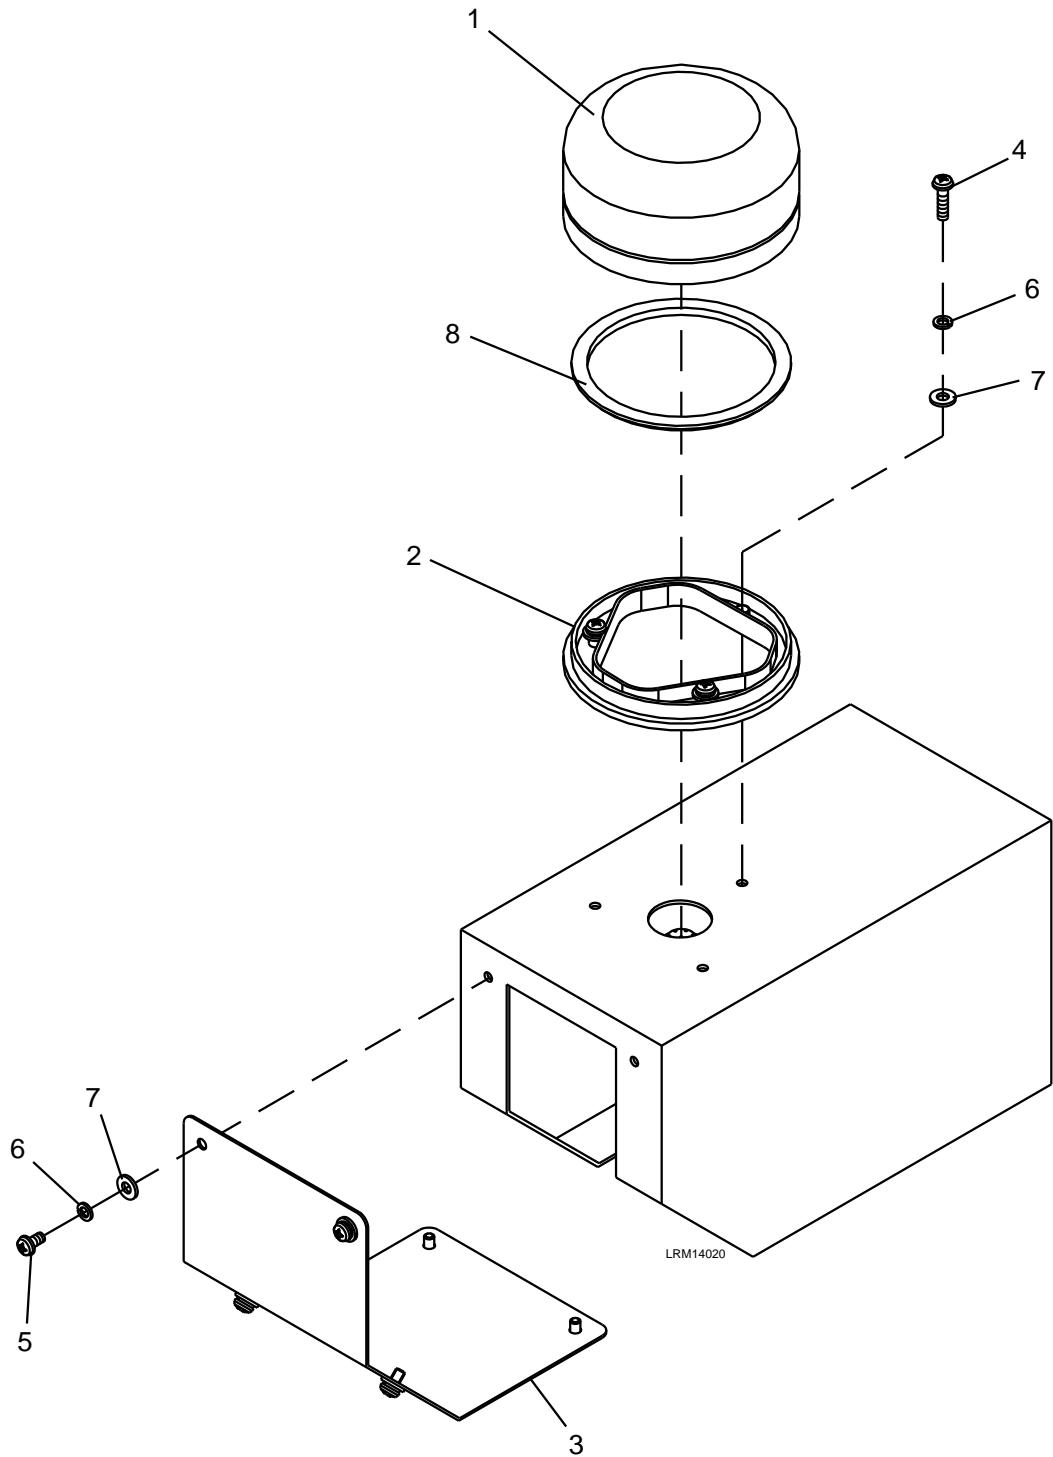

Figure 7-26: Global Positioning System (GPS) Antenna
1. Remove the six M4 x 8 screws (5), M4 lock washers (6), and M4 plain washers (7). See Figure 7-26.
2. Remove the cover (3).